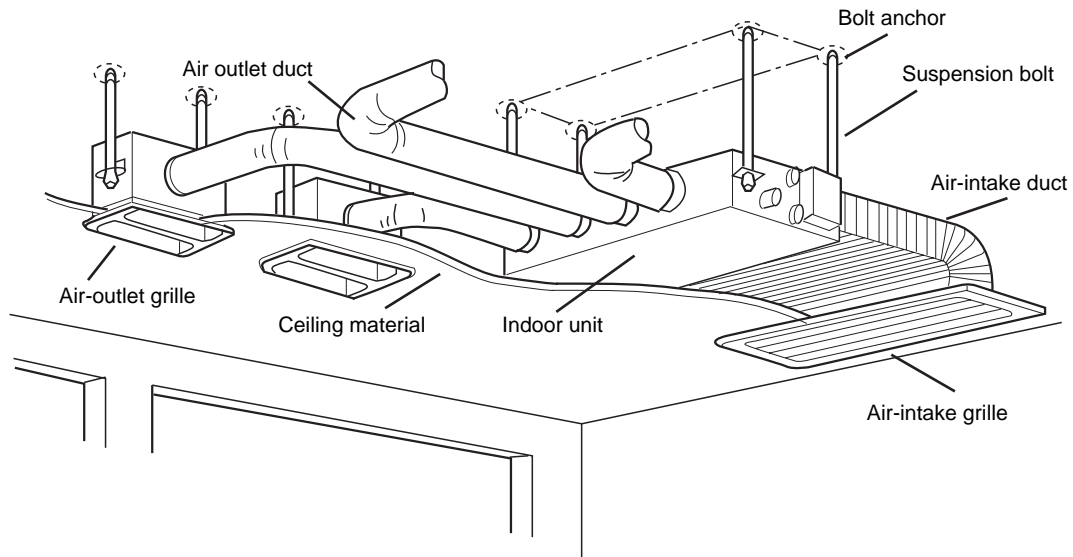

Fig. 3-78
- Fig. 3-78 shows an example of installation.